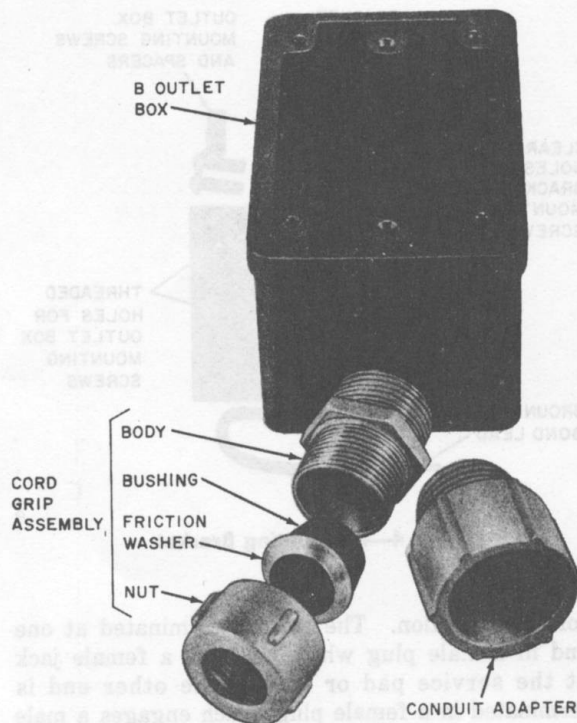

Fig. 3—B Outlet Box
- Box, Outlet, B (for mounting male or female jacks on land, dock, or RV, Fig. 3)
2.03 The B outlet box (Fig. 3) is a molded box intended for mounting the B weatherproof male or female jacks. It has a threaded knockout entrance at each end for use with an aluminum cord grip assembly or PVC conduit adapter. The cord grip assembly and conduit adapter come with the outlet box.